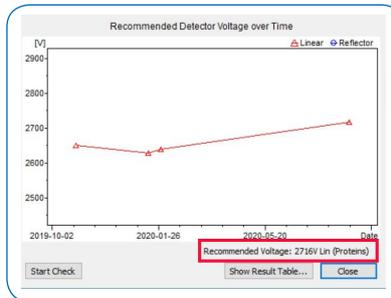

Figure 4.9 Result of the Detector Check
- After the procedure, results are shown in the “Detector Check” window (see Figure 4.9)
- The detector voltage should be set to the “Recommended Voltage” value (see Figure 4.9)